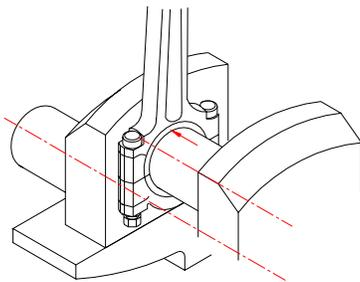

Fig. 11
- p) It is not permitted to perform any manner of adjustment to the bearing or connecting rod big end as strict tolerances are adhered to during manufacture. Installation tolerances (Fig. 11) are in Table 8.